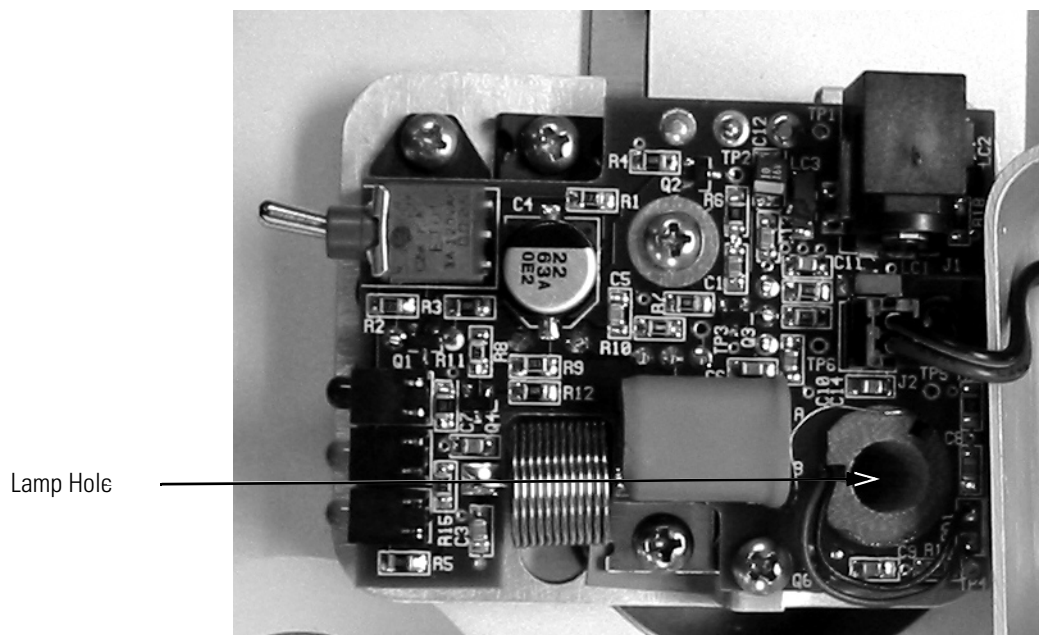

Figure 48. Light source with box top removed, showing the lamp hole
9. Insert an Allen key into the lamp hole in the electronics PCB. See Figure 48. Gently push out the VUV lamp with the Allen key.
7. Insert an Allen key into the lamp hole in the electronics PCB. See Figure 48 on page 94. Gently push out the VUV lamp with the Allen key.